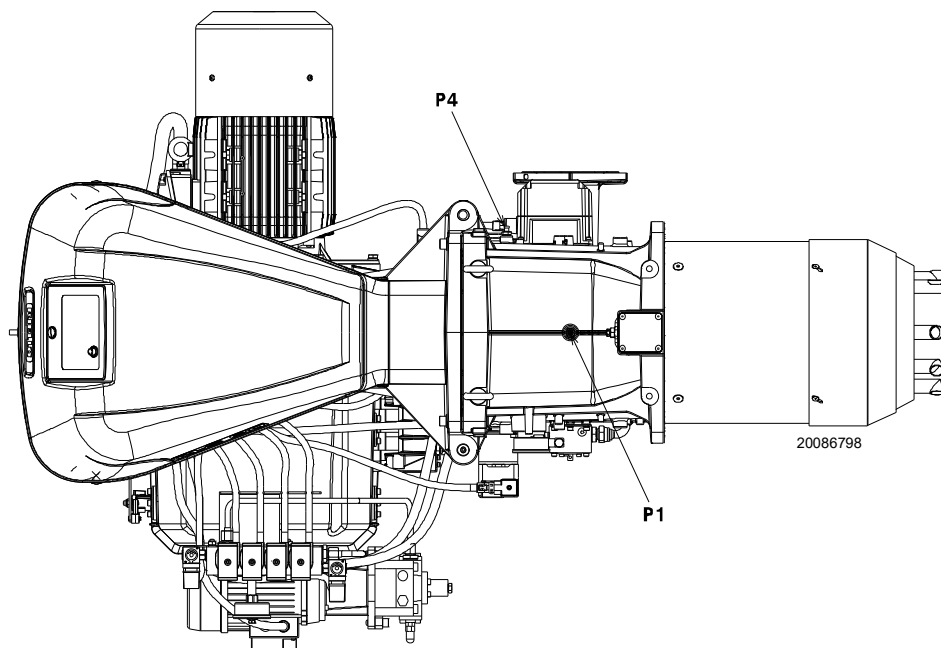

Fig. 27
Gas pressure measured at the test point P1)(Fig. 27), with:
- subtract the combustion chamber pressure from the gas pressure measured at test point P1) (Fig. 27 on page 30).
Gas pressure at test point P1) (Fig. 27 on page 30) = 24.3 mbar
To calculate the required gas pressure at test point P1) (Fig. 27 on page 30), set the MAX output required from the burner operation:
- Read, on the right (column 1), the pressure at the test point P1) (Fig. 27 on page 30).
Pressure required at test point P1)(Fig. 27).